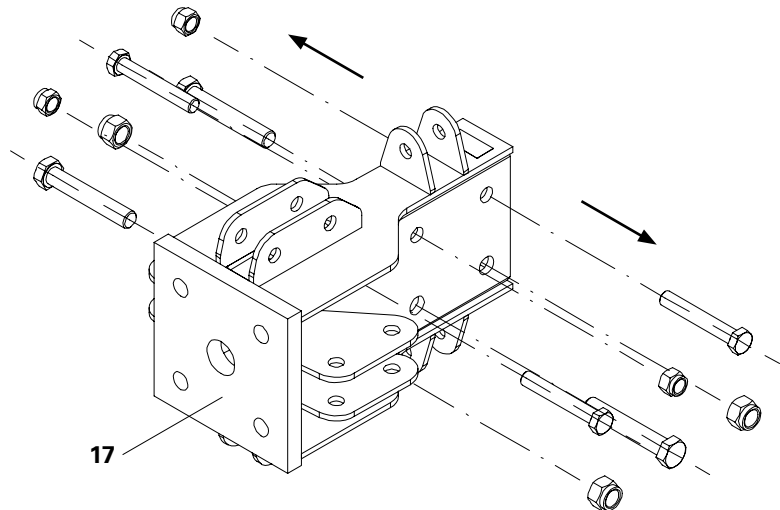

Fig. B2.02
1. Remove all 6 bolt connections from the Prop Base VST 48 (**17**). (Fig. B2.02)